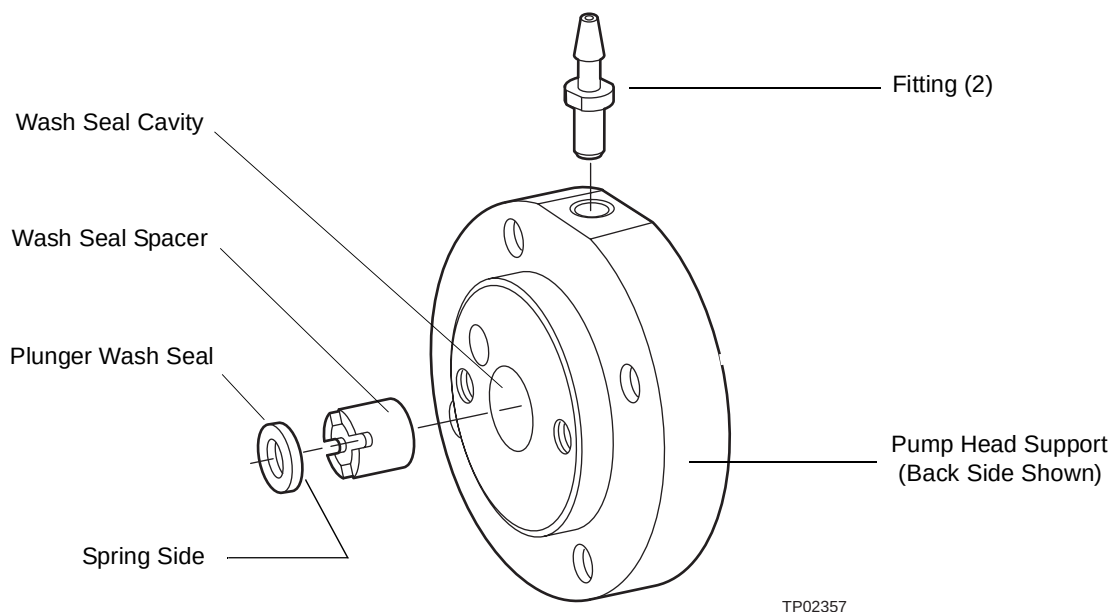

Figure 2-6 1525EF Head Support Components
Note: The back side of the pump head support is identified by the larger wash seal cavity. Figure 2-6 shows the back side of the pump head support.
9. Insert a tube fitting, barbed end out, into each hole on the edge of the head support. Slide the tubular end of the wash fitting installation tool over the fitting and press down until the fitting flange is firmly seated against the flat area on the head support edge (Figure 2-6).